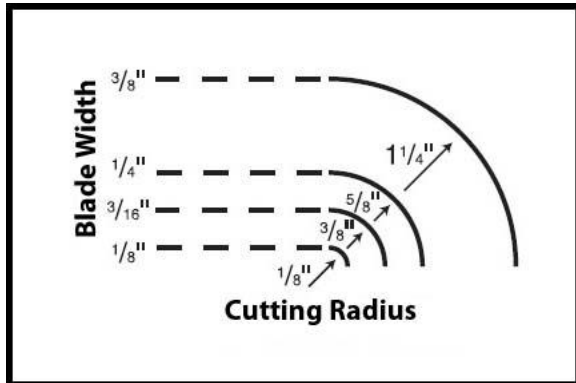

Figure 4
- For curve cutting reference Figure 4 below to help determine the largest as well as smallest curve that can be cut using the various blade widths. Always choose the blade that will cut the smallest radius needed dependent on your work piece.